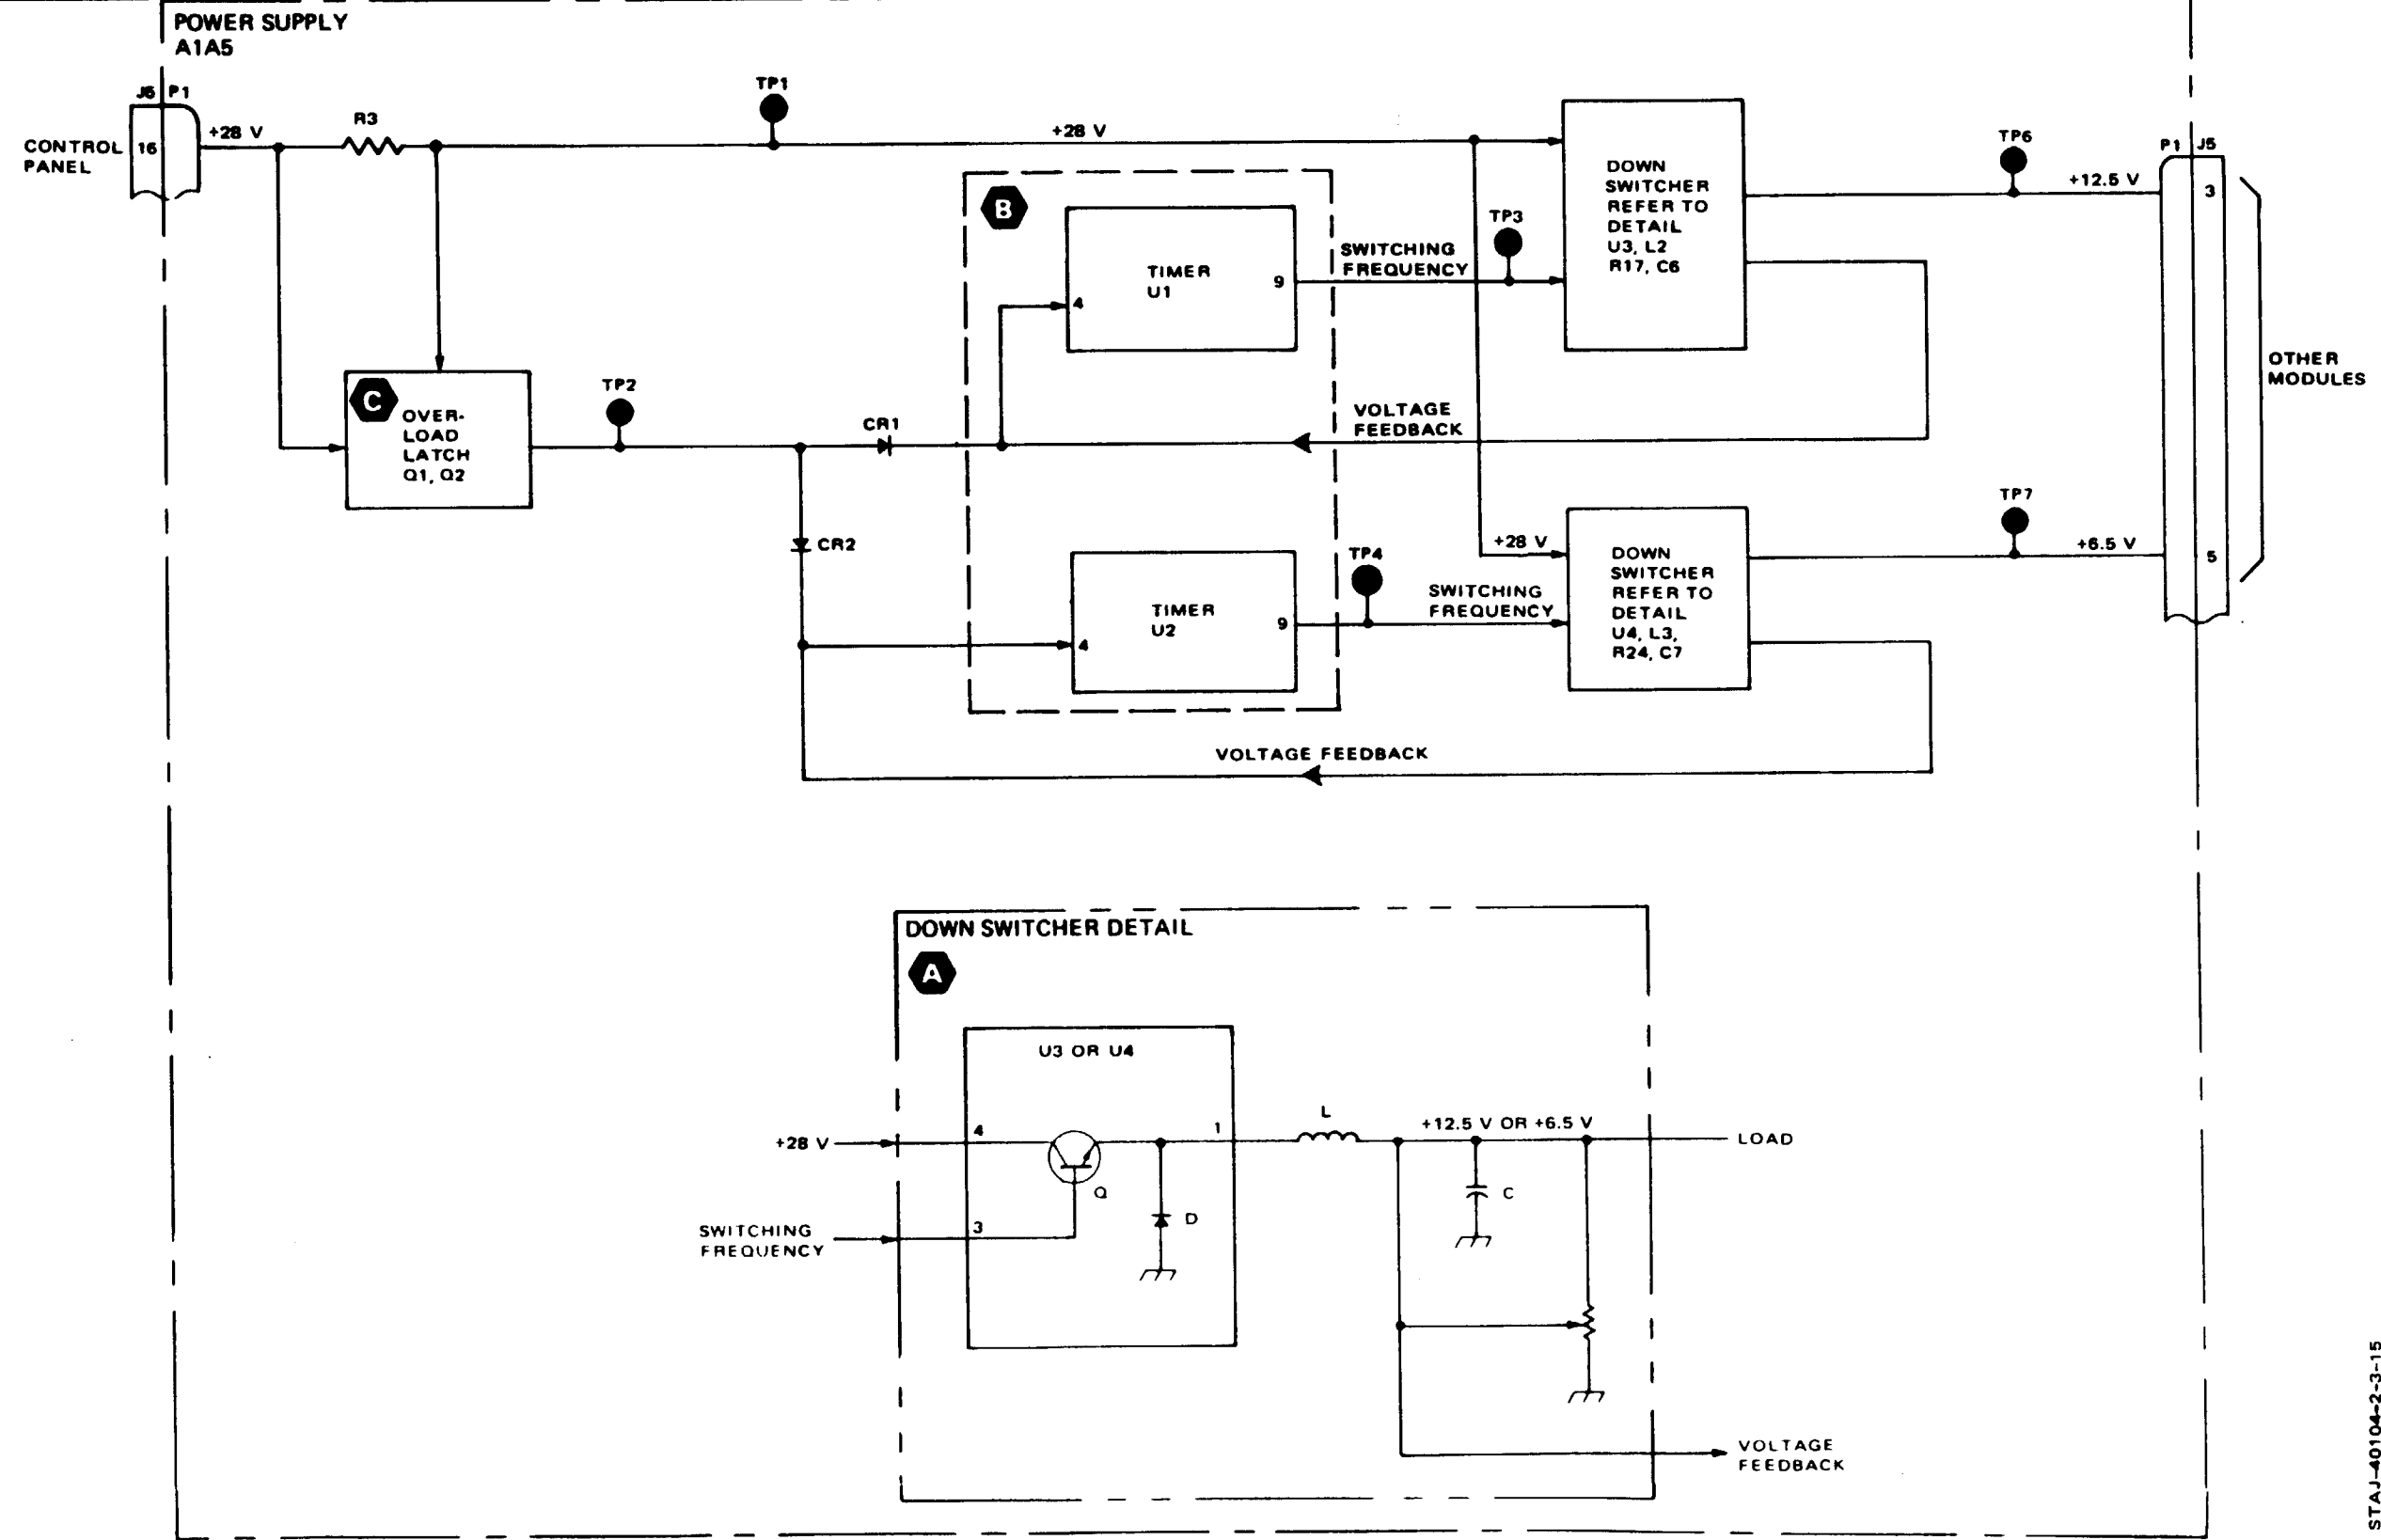

Figure 2-19. Power Supply
**POWER SUPPLY (1 of 2), fig 2-19**
**A** **DOWN SWITCHING** — The actual conversion from +28 V to +12.5 V or +6.5 V is performed by down switchers U3 and U4 shown in the detail on page 2-51. A transistor switch (Q) is driven on and off at a switching frequency of approximately 77 kHz. When the switch (Q) is closed, current flows through the inductor (L) and charges the capacitor (C). When the switch opens, the energy stored in the inductor (L) is transferred into the capacitor (C) via the diode (D). The voltage on the capacitor (C) is determined by the ratio of closed to open time of the switch (Q). The switch (Q) and diode (D) are integrated parts of switching regulators U3 or U4. The other elements are discrete.